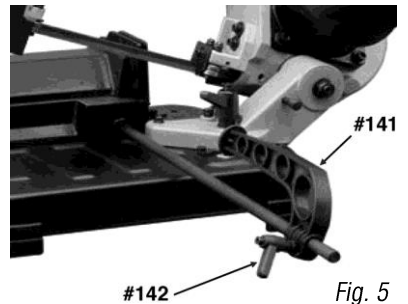

Fig. 5
2. To position the work stop to the appropriate length, loosen the lock handle (#142), set the work stop (#141) at the desired distance and then tighten the lock handle. (Fig. 5)